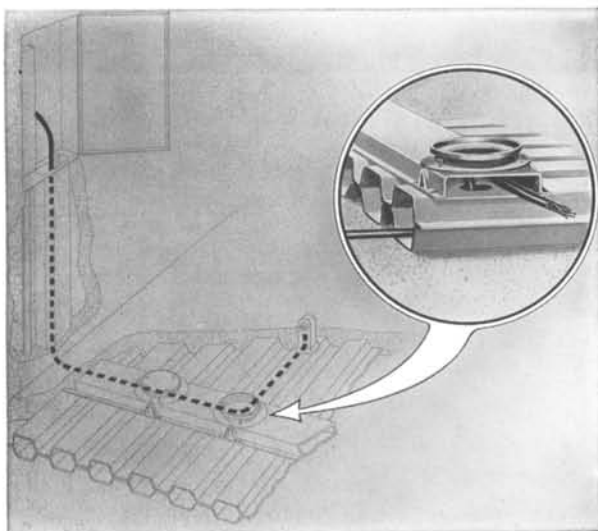

FIG. 4—CELLULAR CONDUIT SYSTEM
3. The cellular conduit system consists of cell centers which are 6 inches apart. Therefore, the space between telephone wires is determined by the number of services other than telephone involved. That is, electric, lights, etc. In this case, services are in alternating cells with each service appearing every 12, 18, or 24 inches. Junction boxes are located in a header which crosses the cells and connects to a distributing-terminal cabinet. Outlet heads may be provided by the building people at practically any point along the ducts. (See Fig. 4.)